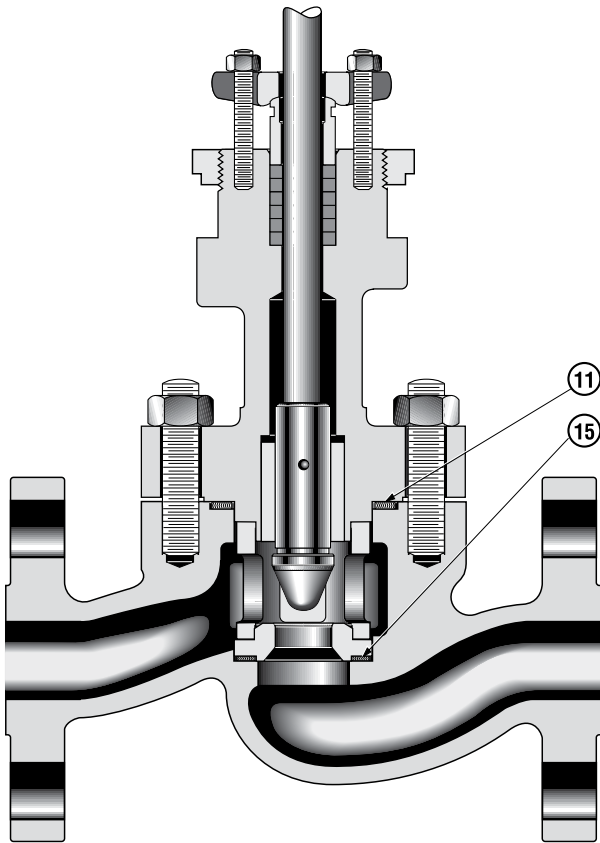

Figure 16 – 21000 Series
8.3 High Pressure and Angle Design (Figures 16 & 17)